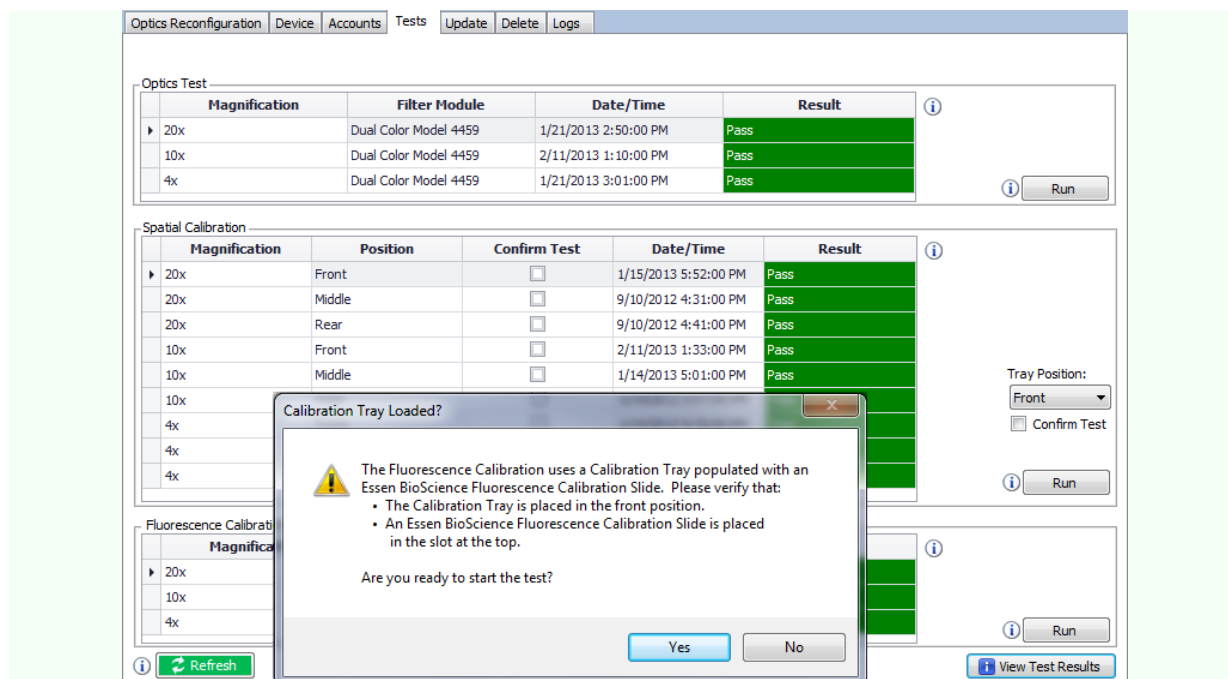

Figure 13. Fluorescence Calibration
3. Select the Tests tab under the Administer IncuCyte™ tasks bar. Then, select the Fluorescence Calibration test. Press the Run button. A new window will open to confirm that the IncuCyte™ is properly configured to run the test. Press the Yes button to start the calibration. See Figure 13.